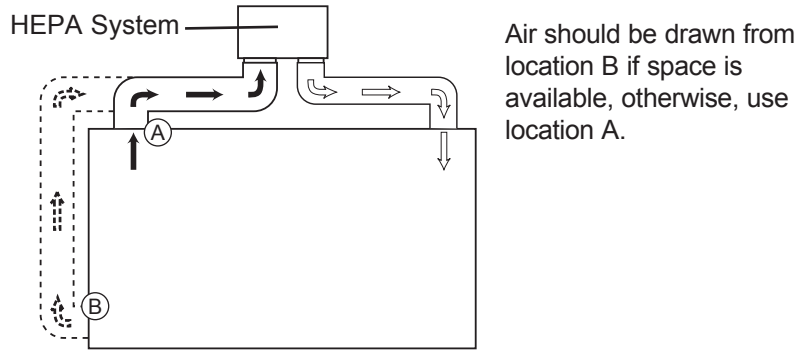

Figure 9.
- Intake ducts should be installed near the floor for optimum airflow (see figure 9). If space does not allow, then the inlet can be installed in the ceiling.